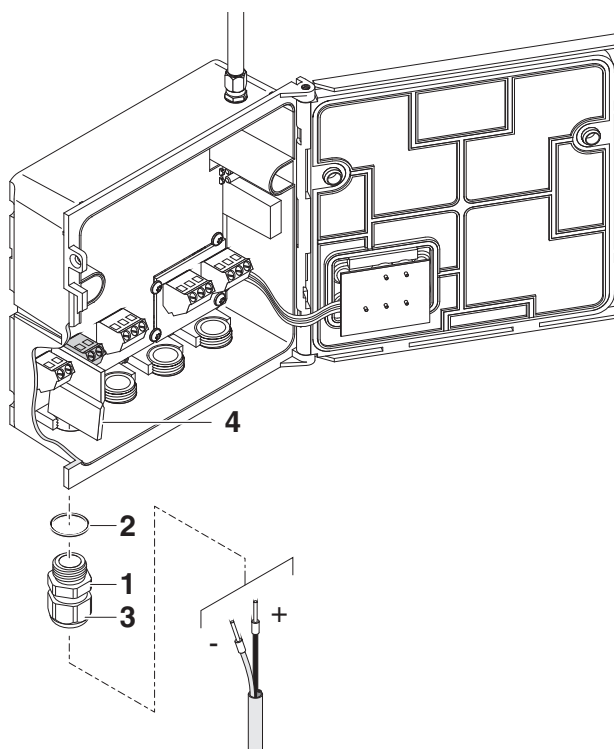

Fig. 3-15 Inserting the 24 V DC line.
| 5 | Screw a cable gland (pos. 1 in Fig. 3-15) with sealing ring (pos. 2) into the enclosure below the 24 V DC connection. |